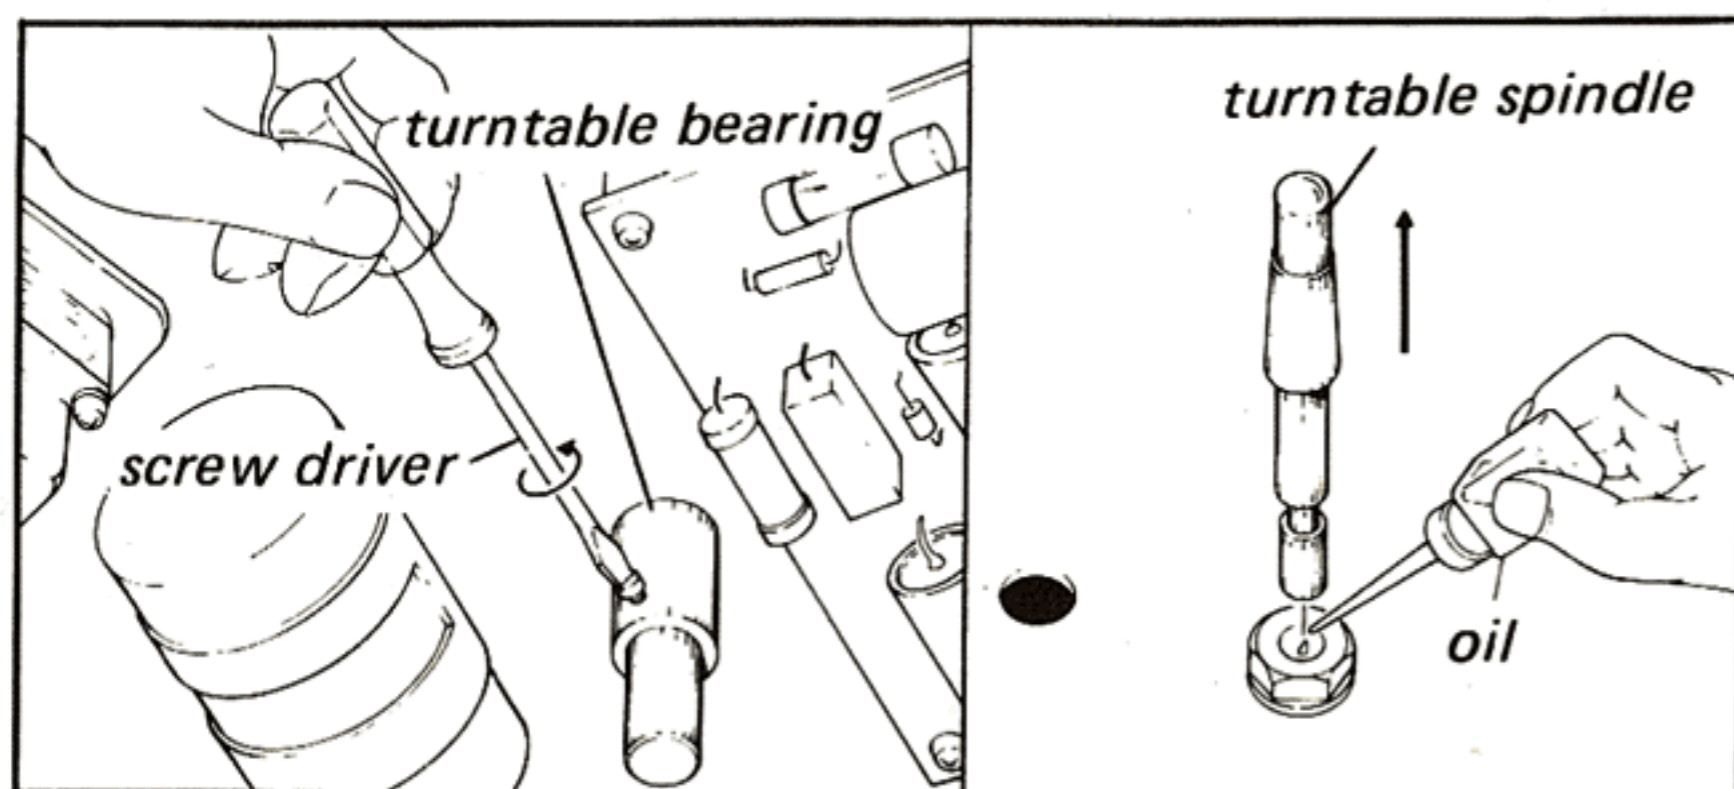

Fig. 3-5
2. Turntable spindle (See Fig. 3-5)